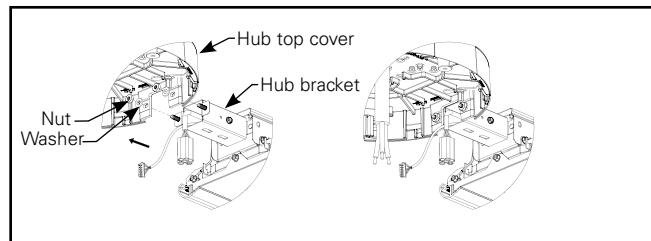

Figure 7.
6. Secure hub top cover with the hub bracket of fixture assembly with nuts provided (Figure 7). Ensure that fixture top surface and hub top surface are in line and level.